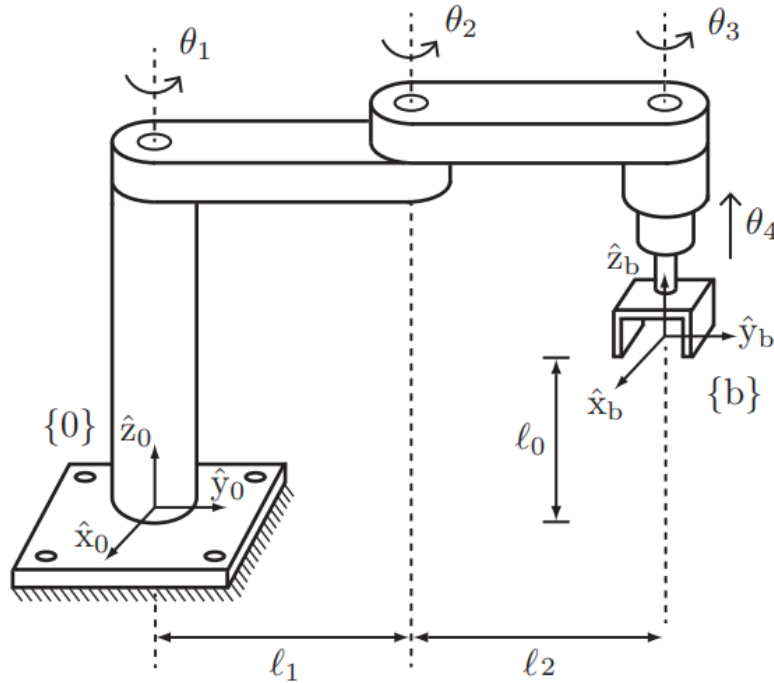

Figure 1: RRRP SCARA robot in its zero position.
1. **(10 marks)** The RRRP SCARA robot of Figure 1 is shown in its zero position.